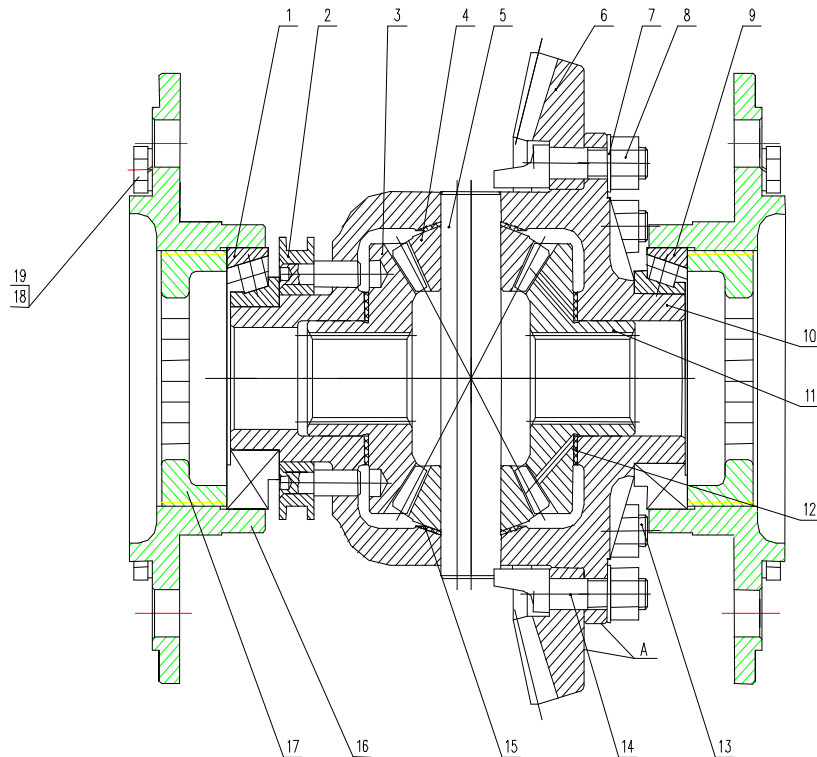

Figure 5-7 Adjustment of Differential Bearing
- Adjustment of differential bearing ( Figure 5-7)
Large conical gear (Figure 5-7) is fixed on the differential housing with 6 bolts and 2 thrust bolts of planetary gear shaft. Both ends of the differential housing is installed with conical roller bearing, via differential and bearing seat, and installed on the rear axle housing with 6 screws. There are 2 planetary gears and 2 half-axle gears intalling in the differential housing. The gaskets are installed between the planetary gears and half-axle gears and between half-axle gears and differential housing. The planetary shaft is sheathed with planetary gear sleeve. One end of the planetary gear shaft is with notch to avoid turning and rippling of the planetary shaft.